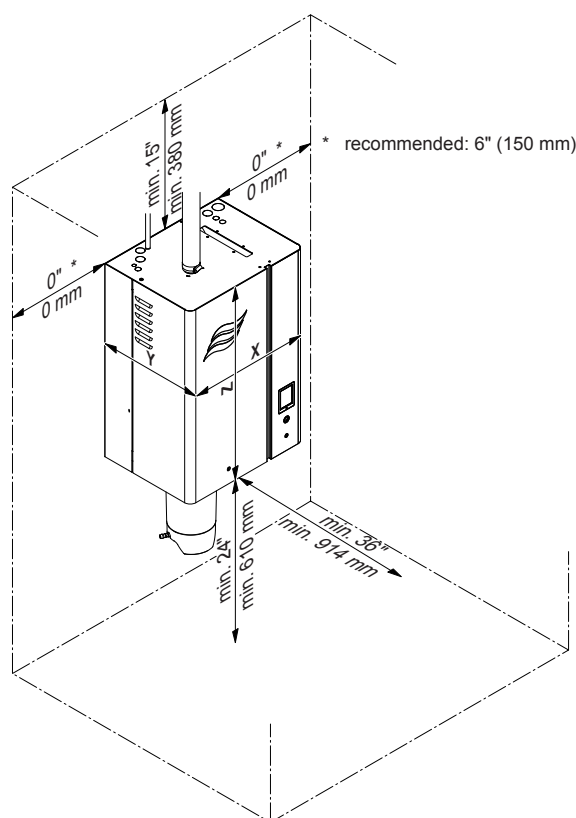

Figure 11: Clearances Nortec RS
- ☐ Allow adequate clearances around the humidifier for ease of maintenance. Although the Nortec RS humidifier requires no side clearance, Condair recommends minimum clearances of 6 in (150 mm) on the side. A clearance of 24 in (610 mm) between the humidifier and the ground is also required. Refer to Figure 11 and Table 10 on page 26, which also show the clearances required for the Nortec RS Space unit. Observe all local and national installation codes. Condair is not responsible for any installation code violations.